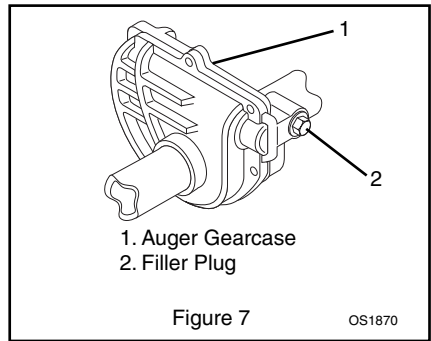

Figure 7
1. Remove filler plug (Figure 7). Lubricant must be at least up to bottom of lubricant filler hole with unit resting on a level-surface.